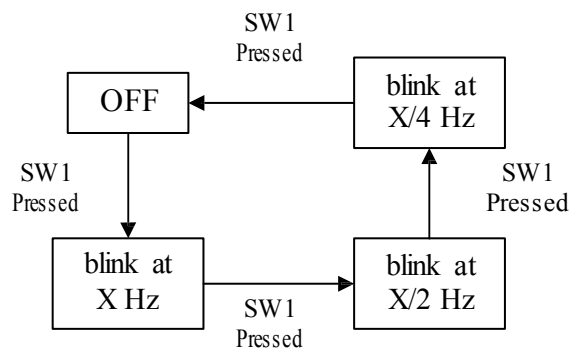

Figure 2: Operation of SW1 and LED1
- * When SW1 is pressed for the 5th time, LED1 is OFF again and the cycle repeats (**Figure 2**)